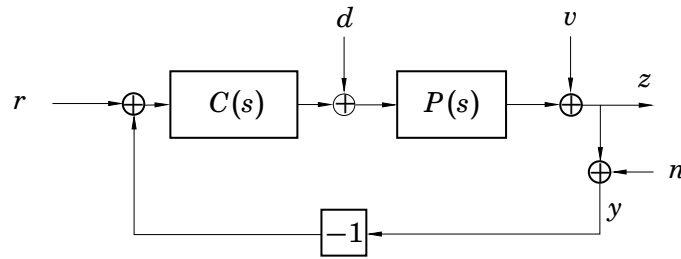

Figure 2.3 System in Problem 2.5
- 2.5** Study the feedback control system in Figure 2.3, where the process, $P(s)$, is given by